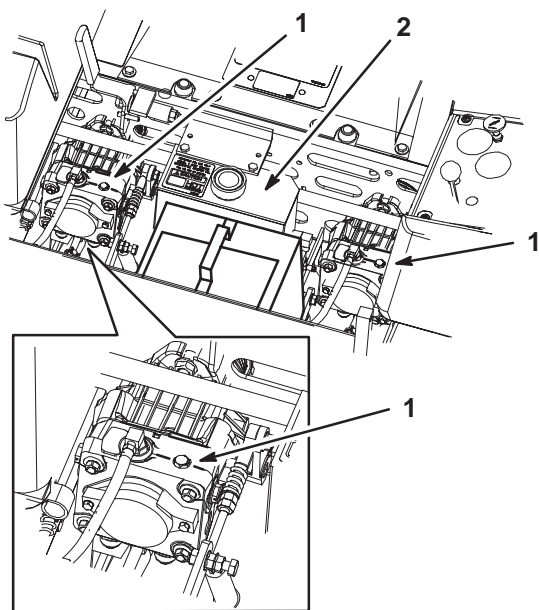

Figure 28
2. Rotate the by-pass valves counterclockwise 1 turn to push. This allows hydraulic fluid to by-pass the pump enabling the wheels to turn (Fig. 28).
Rotate the by-pass valves clockwise 1 turn to operate machine (Fig. 28).